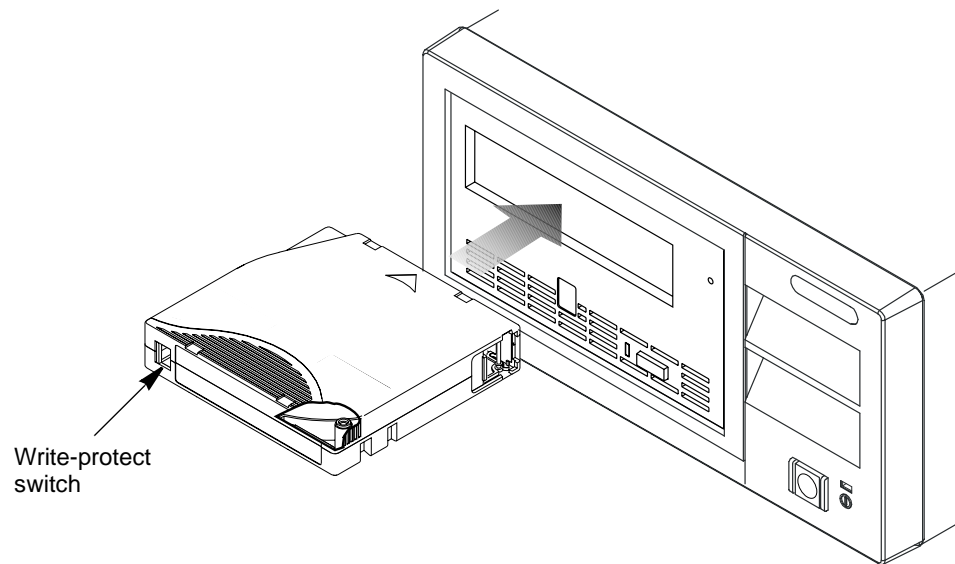

Figure 3-2 Inserting a cartridge into the tape drive
3. Grasp the cartridge so that the write-protect switch faces you, as shown in Figure 3-2.